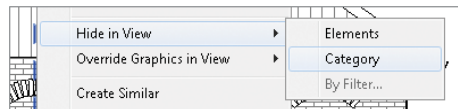

FIGURE 9.7 Duplicating a view
3. Select one of the green dashed reference planes, right-click, and choose Hide In View > Category (Figure 9.7). Notice that all of the reference planes are now hidden.